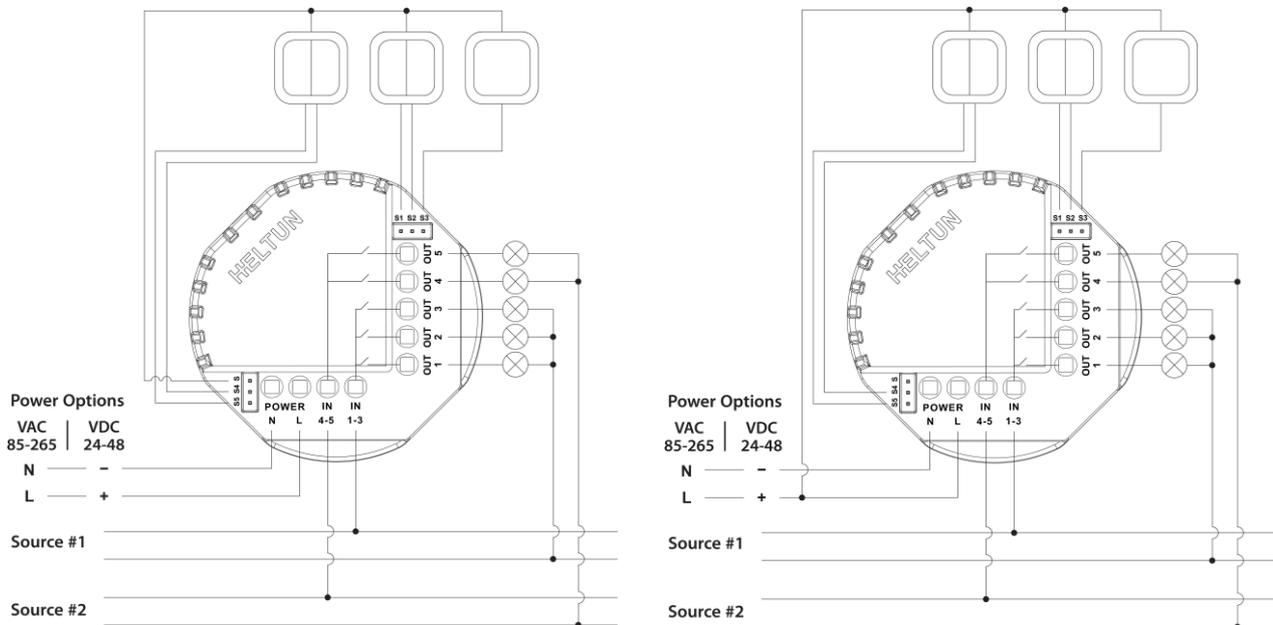

Figure 2: Power, Loads & External Switches Connection Diagram
2. Insert power wires into the HE-RS01 "POWER" terminals by inserting a small Phillips-head screwdriver in the slot beneath each terminal and unscrew to open. Follow *Fig. 2: Connection Diagram* and instructions below:
- Next, connect terminals S1, S2, S3, S4, S5 to external control keys (switches) following Fig. 2 left diagram or Fig. 2 right diagram.
Note: In case of using Figure 2 right diagram, it is MANDATORY to connect external switches to the same wire connected to terminal L on the device.